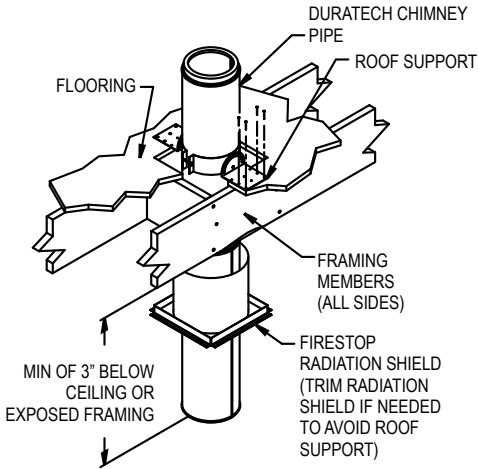

Figure 22
Alternative Installation Location for Roof Support: The Roof Support may be used at the bottom of a Chimney installation (**Fig 22**). This may be useful for some basement installations. Maintain a minimum of 2" clearance to combustibles at all times. The DuraTech Chimney needs to extend a minimum of 3" below the finished ceiling or exposed framing members. Please note that you cannot extend the chimney all the way to the appliance - you must have some connector pipe.
2. Bolt on the Roof Support Brackets to the Roof Support Band using the supplied hardware. Attach the Roof Support Brackets to floor using (4) 8 penny nails or (4) #8, 1-1/2" screws per side (**Fig 22**).